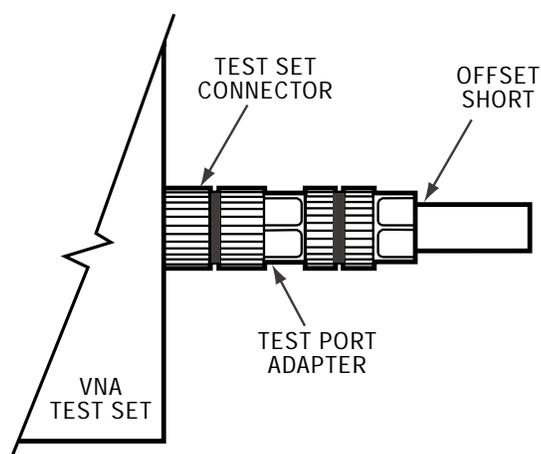

Figure 4. Set-up for Measuring Effective Source Match
- Step 2. Connect the equipment as shown in Figure 4. Note the use of a Test Port Adapter to reduce wear and tear on the test set connector and avoid costly repair bills (see Table 2).